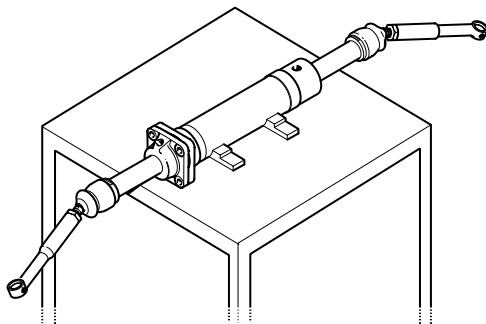

Fig 8.
- 1 Fix the ram assembly on a locally manufactured strip/rebuild bench. ⇒ Fig 8. \(□ H6-8\)